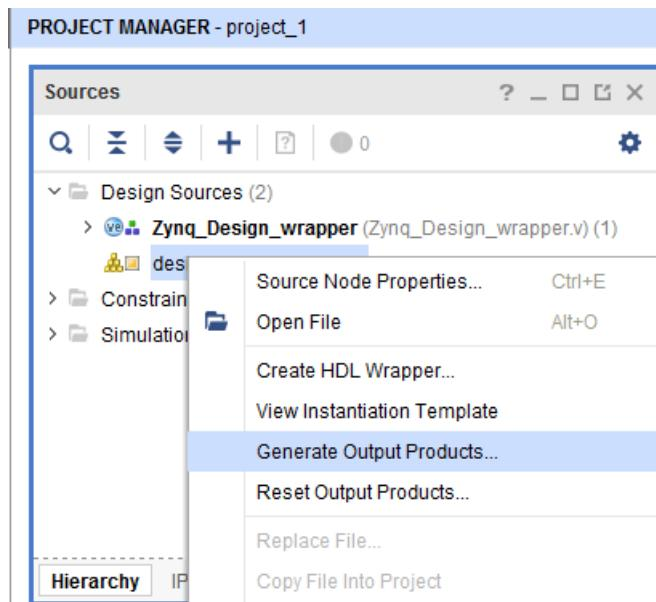

Figure 10-20: **Generate Output Products**
2. In the Sources browser in the main workspace pane, a Block Diagram object called `Zynq_Design` is at the top of the Design Sources tree view (Figure 10-20). Right-click this object and select **Generate Output Products**.